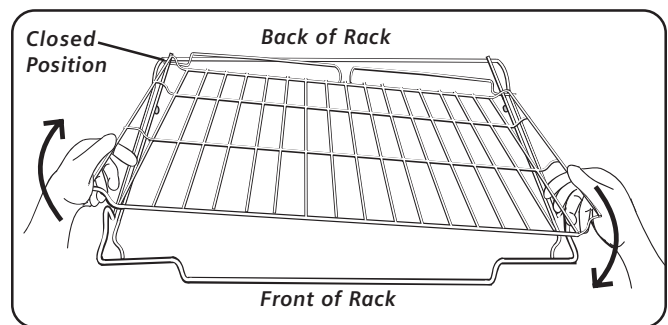

Figure 2 - Taking the Rack Apart
**The two sections of the rack are designed to come apart for easier cleaning.** To do so, place rack on flat surface in the closed position right side up. Rotate one side of top rack towards you until it is past the stop (ball). Pull the rack up and out, rotated side first (See Figure 2).